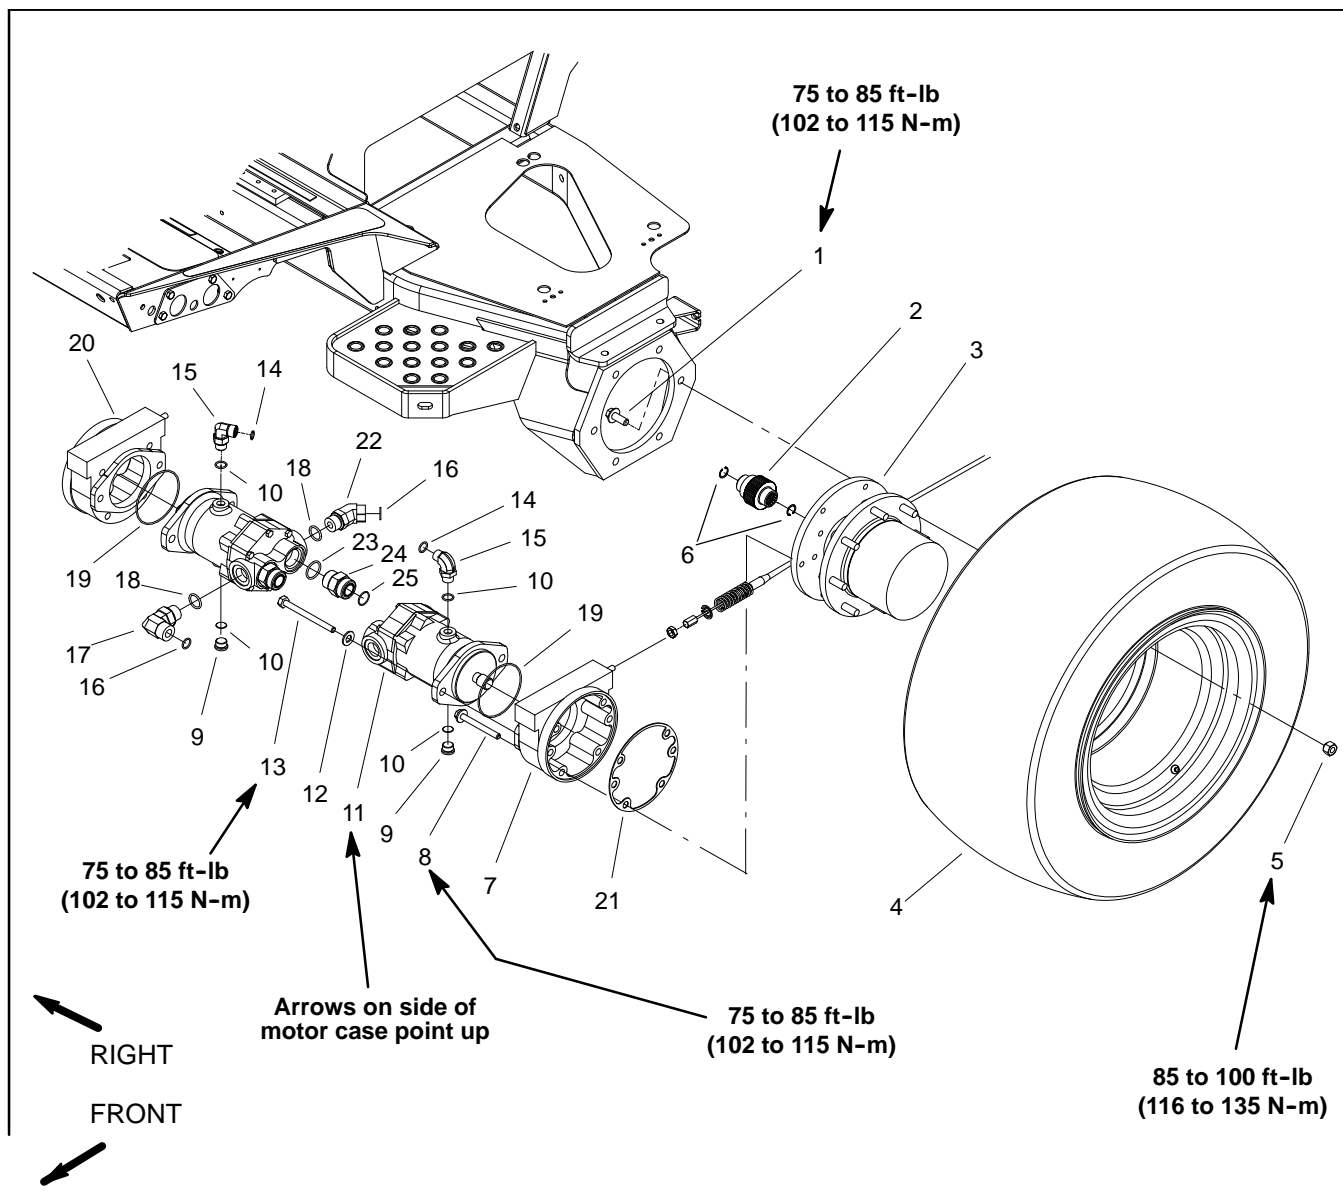

Figure 65
## Removal (Fig. 65)
6. Remove wheel motor using Figure 65 as a guide.
## Installation (Fig. 65)